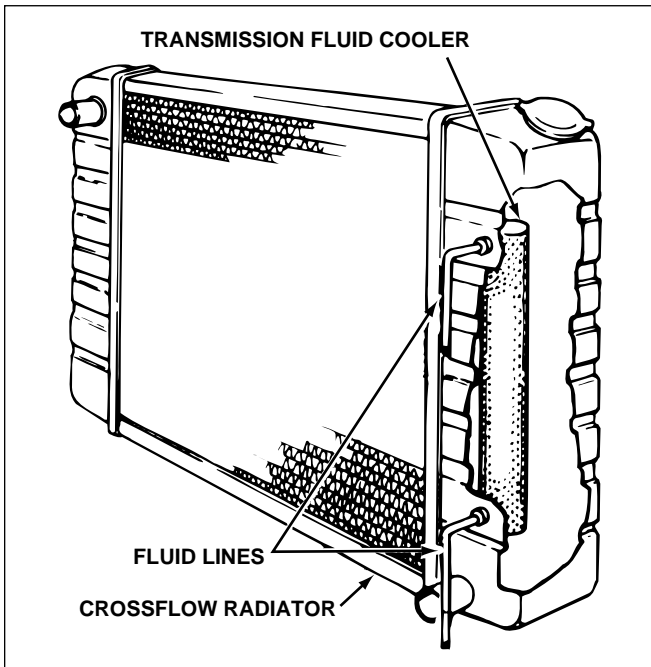

Fig. 4-10. Check for automatic transmission fluid cooler leakage and signs of damage to the lines and fittings while inspecting the radiator.
- Inspect the radiator for oil, rust, or scale inside the filler neck, leakage at the tank seams, kinked or damaged overflow tubes, and damage around the automatic transmission cooler lines, figure 4-10